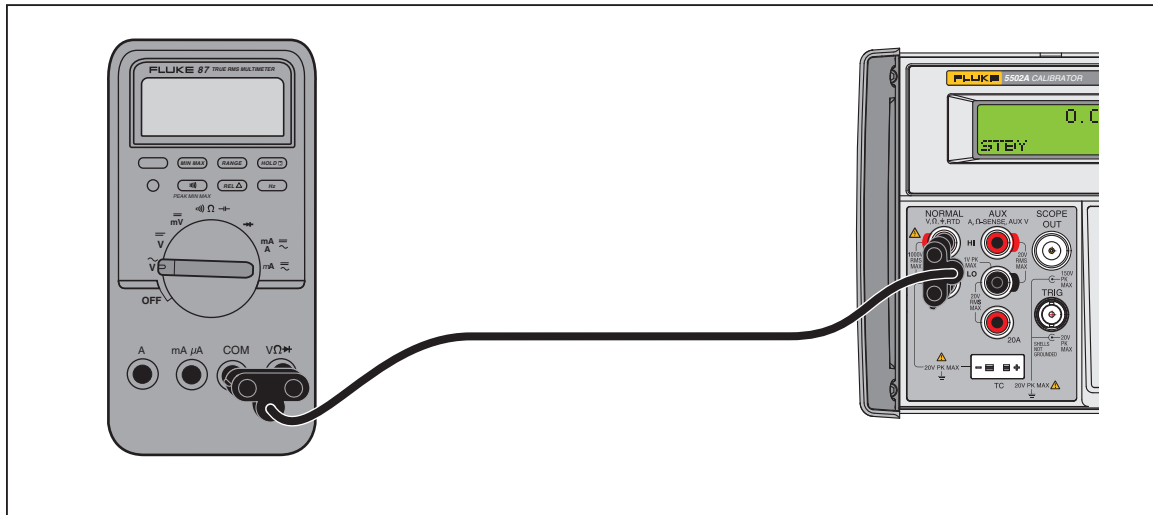

**Figure 4-15. Cable Connections to Verify 80 Series General Functions**
2. Make sure that the Calibrator is in standby and connect the DMM as shown in Figure 4-15.